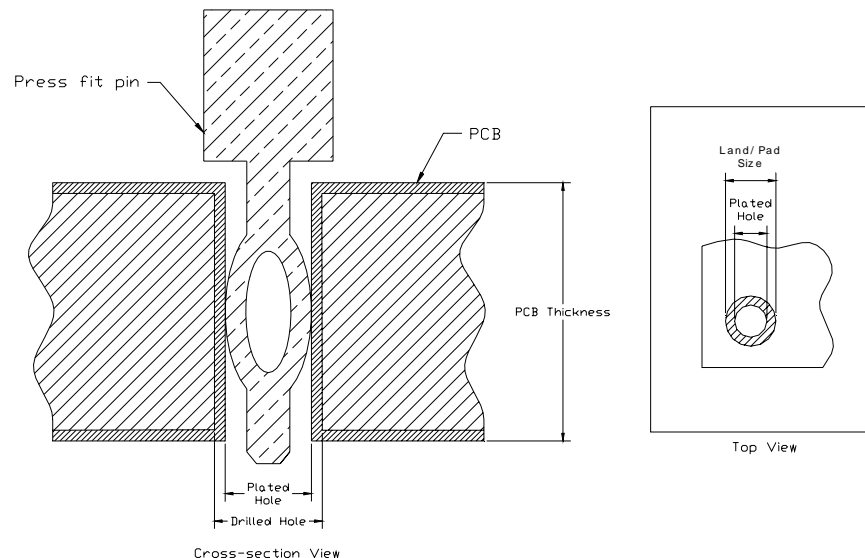

Figure 6 - Important features of PCB design for Converged Metral™ Connectors.
- Figure 6 shows the important features of the PCB.